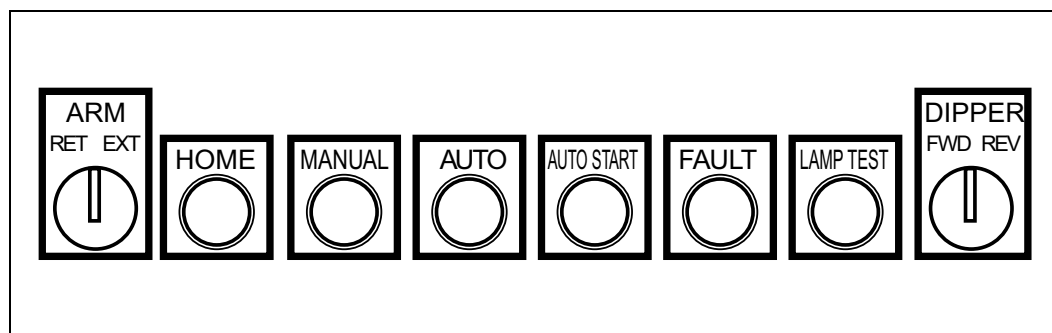

Figure 8-5: Manual Push-buttons
6. Press the MANUAL push-button (Figure 8-5). The MANUAL push-button lights indicating that the machine is ready for manual operation.
7. Press and hold the HOME push-button (Figure 8-5) until the arm and dipper are centered (at the Home position) and the HOME push-button is lit. This sets the center position for the ladle arm and dipper.
12. Press the AUTO push-button (Figure 8-5) to place the machine in automatic mode. The AUTO push-button lights indicating that the machine is in automatic mode.